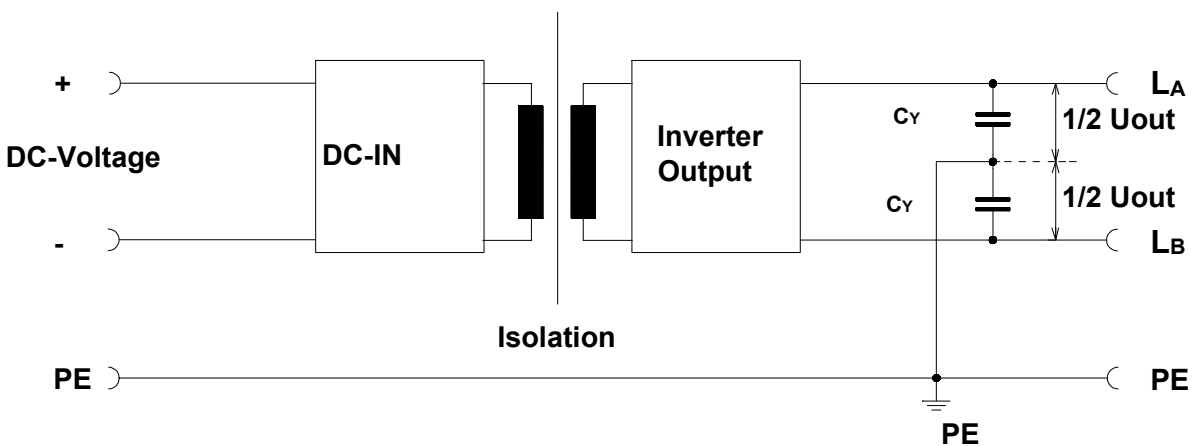

Figure 1
If the inverter is used in an application, where no neutral wire (N) is connected to the unit, voltage between the single phases and PE can be measured to approx. 115V_{AC} (58V_{AC}). This voltage comes from the capacitive EMC voltage divider. It is uncritical because of the low capacitance of the Y-capacitors. See figure 1 for reference.